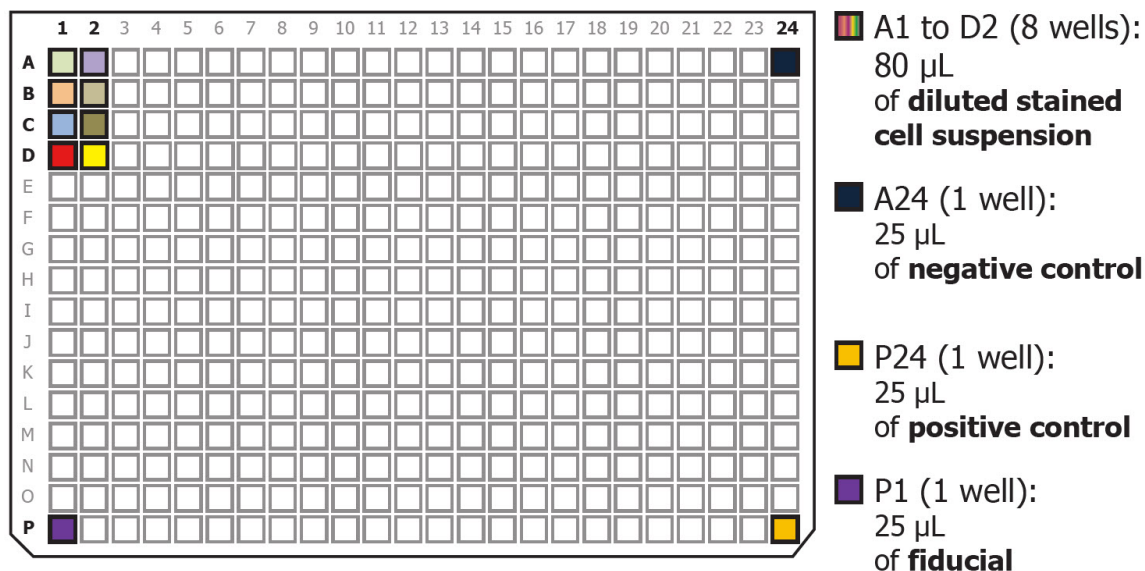

Figure 11. Setting up the 384-well source plate for dispensing cell samples and controls.
**The 1,000- μ l total volume of diluted stained cell suspension is sufficient for distributing 80 μ l of cell suspension in each of eight source wells (see Figure 11, below).
- Using a 200- μ l pipette tip, slowly and carefully load 80 μ l of cell suspension into wells A1, A2, B1, B2, C1, C2, D1, and D2 of an MSND 384-Well Source Plate as indicated in Figure 11 (below).
7. Add Positive Control, Negative Control, and ICELL8 Fiducial Mix (1X) to the 384-well source plate as indicated in the following steps and in Figure 11 (below):